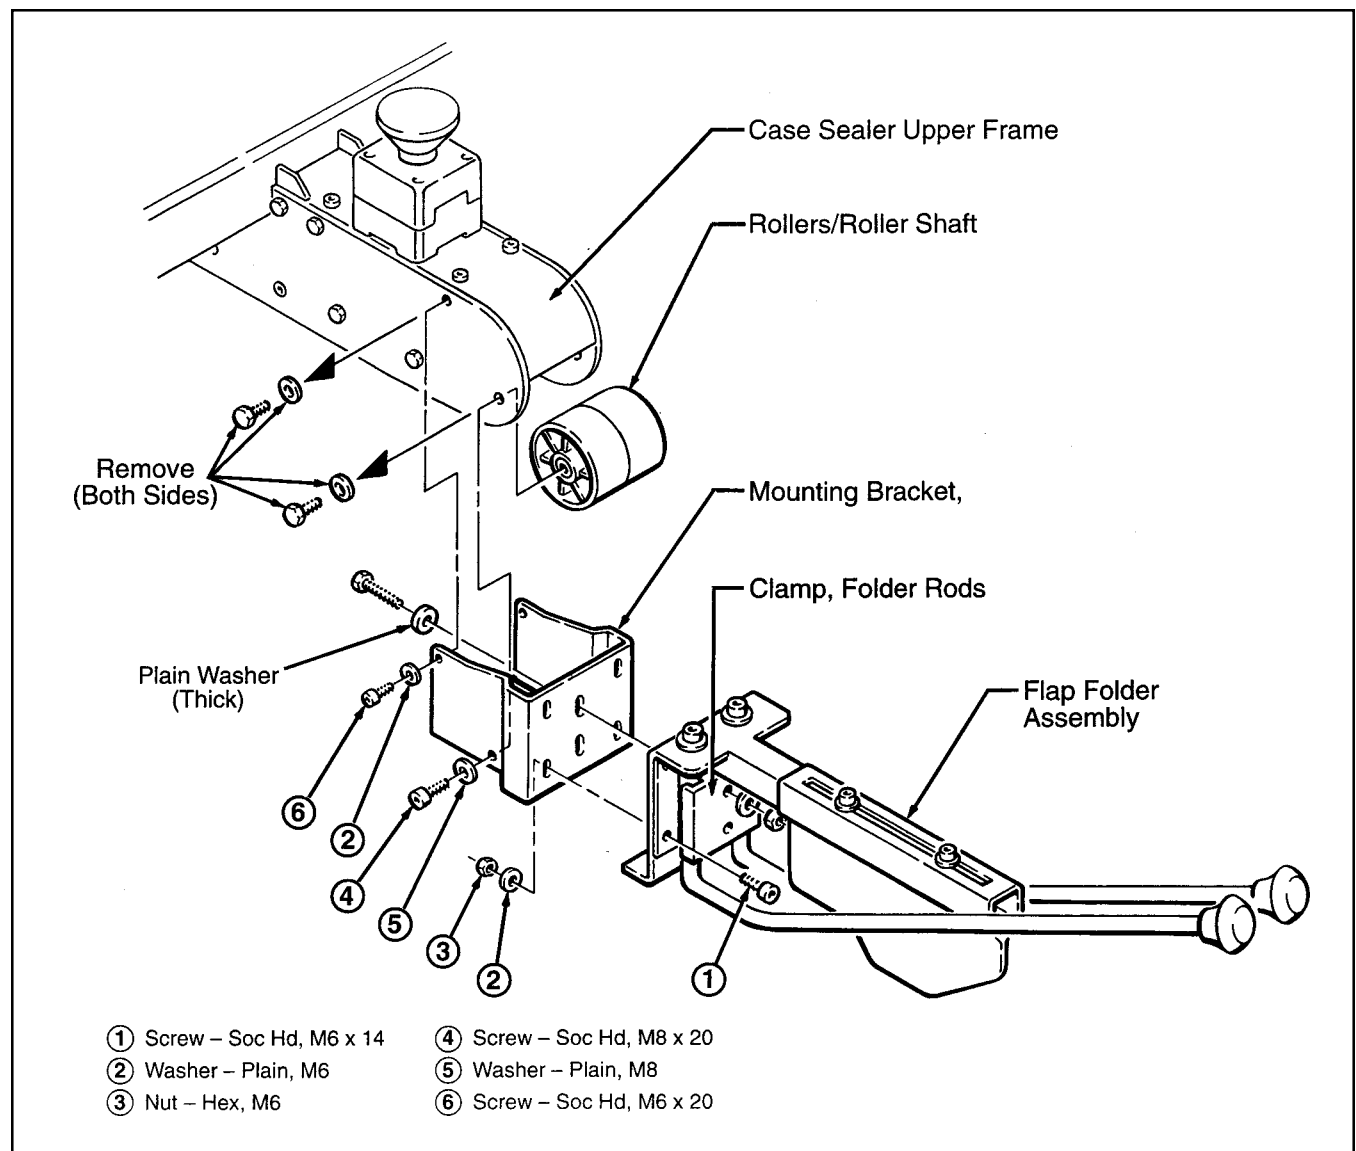

Figure 4 – Installing Flap Folder on 800asb Case Sealer
Installing Flap Folder on 800asb Case Sealer – Figure 4
4. Fasten corners of mounting bracket to flap folder assembly with four each of items ①, ②, and ③. Do not tighten nuts.
5. Attach mounting bracket/flap folder and roller/roller shaft to case sealer upper frame. Use screws and plain washers as indicated in Figure 4. Do not tighten nuts.